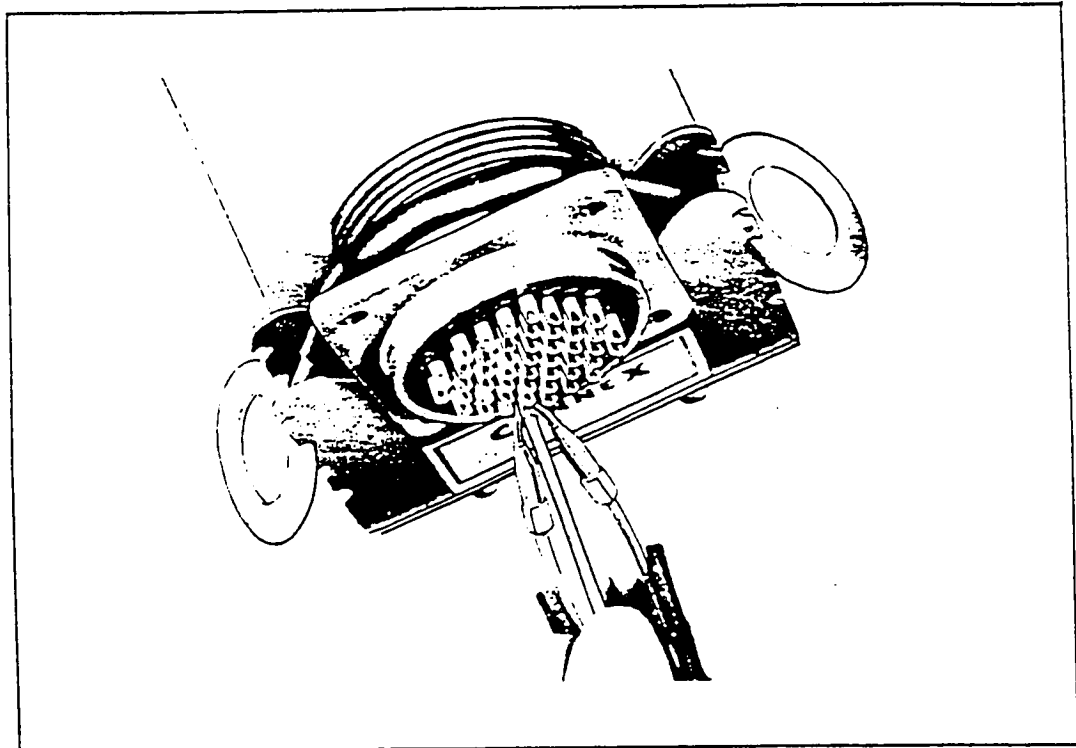

Figure 3.
- 2-12. Insert the pretinned conductor into the well of the contact. Apply heat to the closed side of the contact until the solder has liquified. Add more solder as required. Refer to Figure 3. Remove the heat and allow the joint to cool. Do not move the conductor or assembly while the solder is still in a molten state. Contact identification guide L-494 is available to assist in correct wiring.